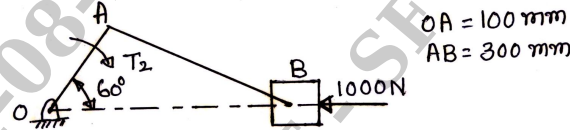

Fig.Q1(b)
- b. Determine the required input torque on the crank of a slider crank mechanism shown in Fig.Q1(b) for static equilibrium.